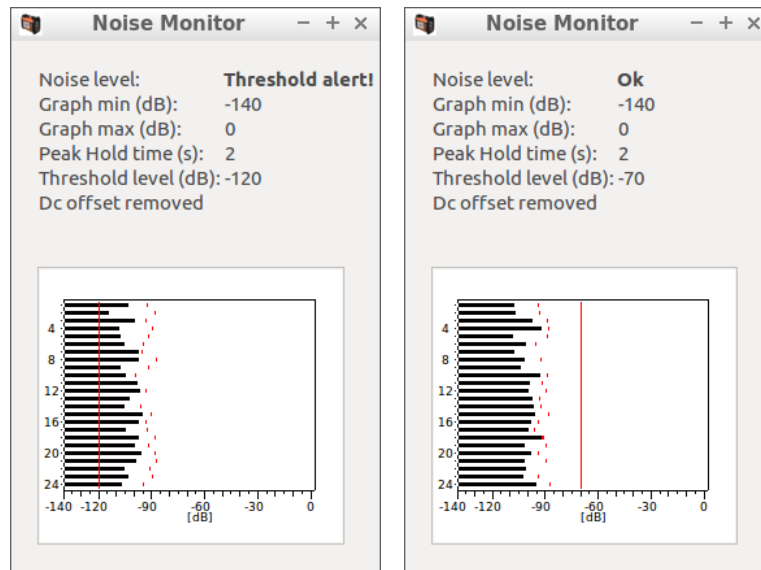

Figure 50 Threshold adjustments
- Adjusting the threshold (Figure 50)